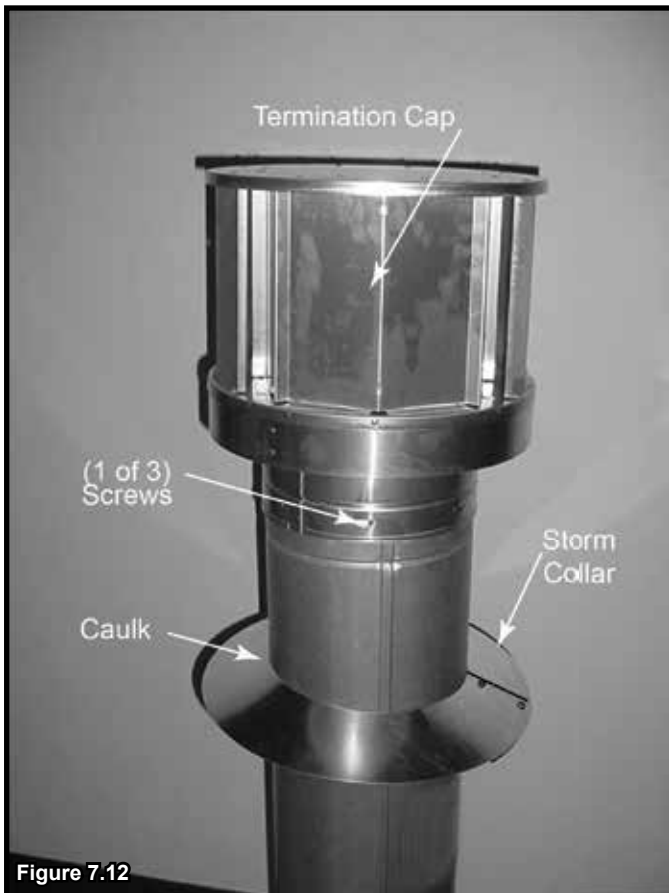

Figure 7.12
- Caulk around the top of the storm collar. See Figure 7.12.
- Secure the cap by driving three self-tapping screws (supplied) through the pilot holes in the outer collar of the cap into the outer flue of the pipe. See Figure 7.12.